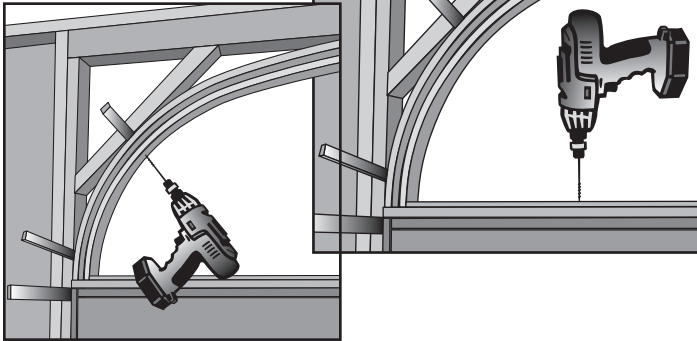

Fig. 36
- D. Fasten transom jamb to head jamb with 1¼" screws into pilot holes (**Fig. 36**).